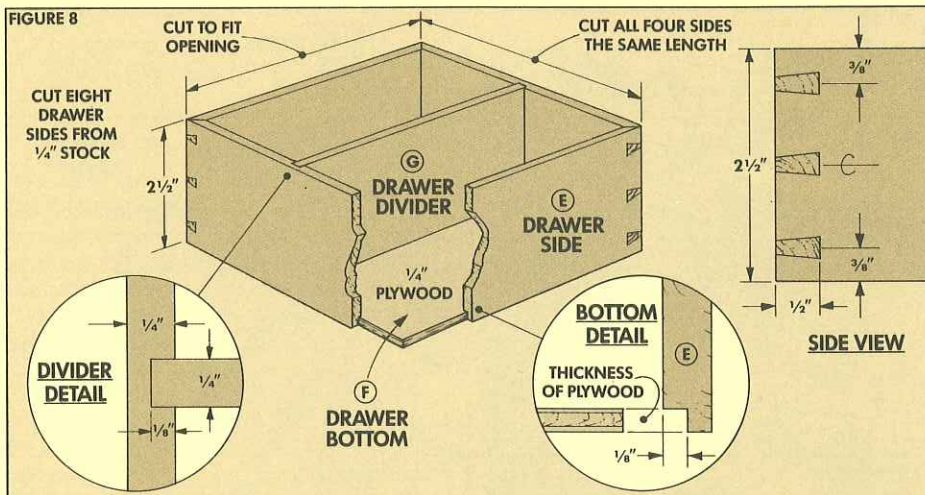

FIGURE 9
LENGTH OF SIDES. After the rabbets are cut, the drawer sides can be cut to final length. Measure the width of the drawer opening in the box, see Fig. 9. (In my case, the opening measured $5\frac{3}{4}$ ".) Now cut cross miters on the ends of all eight pieces so the length from point to point of the miters equals the width of the opening. (Note: The drawers are square so all eight sides are the same length.)
KICKERS. To keep the drawer from tipping down as it's pulled out, I added a kicker (H) to the back of each drawer, see Fig. 9. The kicker also acts as a spacer to keep the drawer from going too far back into the box.
Cut two kickers to that thickness and to the shape shown in Fig. 9. Then, glue the kicker to the center of the drawer back so it's flush with the drawer bottom.